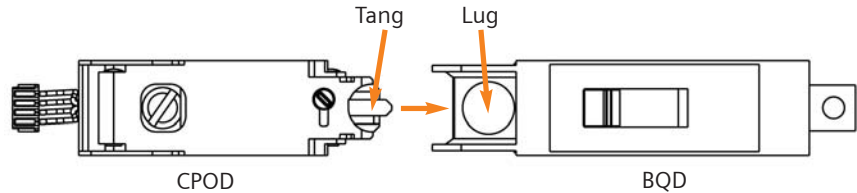

Figure 6.8
6. Engage the CPOD tang with the BQD breaker load lug as shown in figure 6.8 and 6.9. Ensure that the CPOD tang engages into the terminal of the breaker.